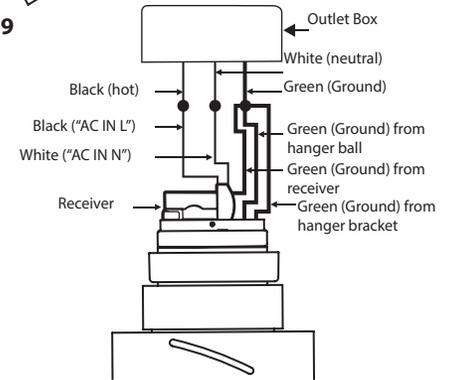

FIGURE 10
3. Connect the fan assembly ground wire, mounting bracket ground wire and receiver ground wire to the ground wire in outlet box. (Fig. 10)
4. Connect the black (hot) wire from the ceiling to the black wire marked "AC in L" from the receiver. (Fig. 10)
5. Connect the white (neutral) from the ceiling to the white wire marked "AC in N" from the receiver. (Fig. 10)